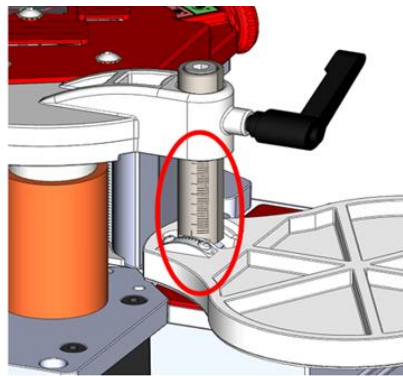

Fig2
- Loosen the locking lever and adjust the distance between supporting plate and edge bander by using the scale (Fig2)